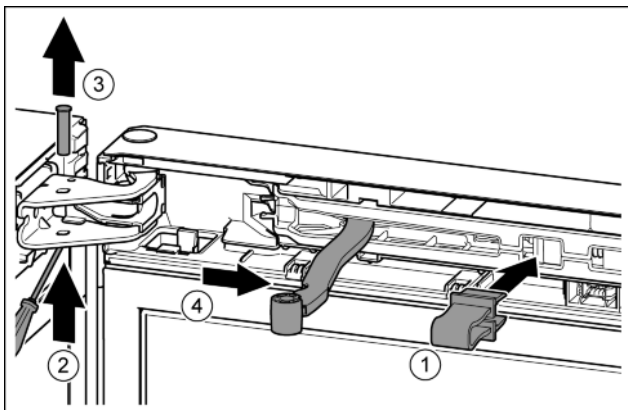

Fig. 8
- ▶ Engage the locking device in the opening. *Fig. 8 (1)*
- ▶ Unscrew the bolt with a screwdriver. *Fig. 8 (2)*
- ▶ Remove the bolt in an upward direction. *Fig. 8 (3)*
- ▶ Turn the hinge in the direction of the door. *Fig. 8 (4)*